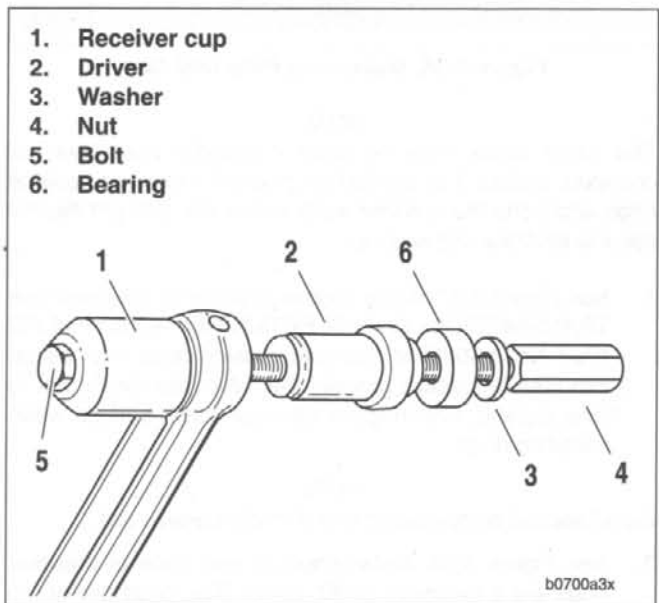

Figure 3-41. Piston Pin Bushing Tool Assembly for Bushing Removal
3. See Figure 3-41. Attach PISTON PIN BUSHING TOOL (Part No. HD-95970-32D) to the connecting rod. The receiver cup (1) fits on one side of the rod while the driver (2) fits on the opposite side as shown.